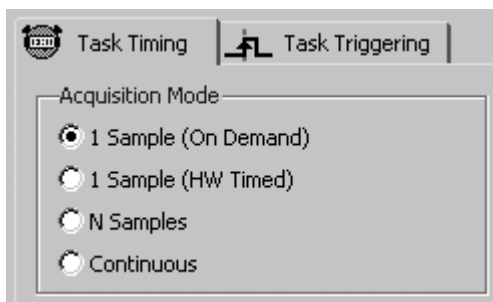

Figure 11.21
5. On the **Task Timing** tab, select an **Acquisition Mode** of **1 Sample (On Demand)**. This will configure your task to return a single measurement value each time you call the **DAQ Assistant VI** (see Figure 11.21).